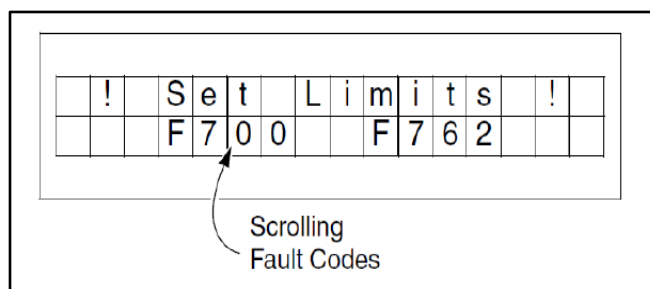

Figure 84
- Apply power to the control system. During the system initialization, the display will indicate that the door close and open limits must be set by displaying the associated fault codes (F700 and F762 will scrawl across the display). (See Figure 84.)